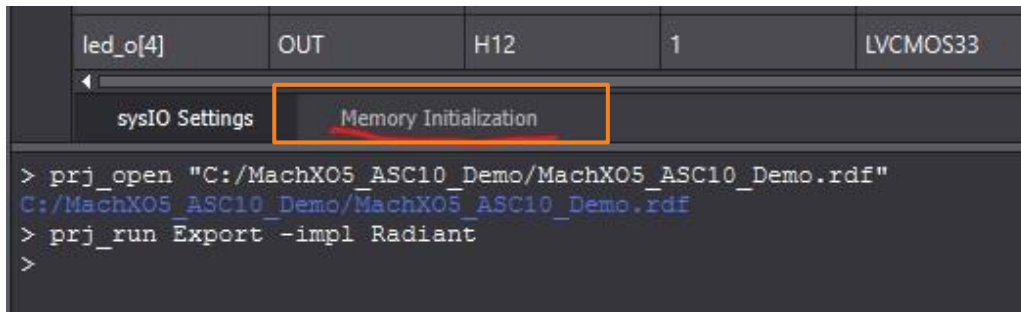

Figure 3.57. Radiant ECO Editor – Memory Initialization Tab
- When the tool opens, click on the **Memory Initialization** tab, shown in Figure 3.57, near the bottom of the screen.